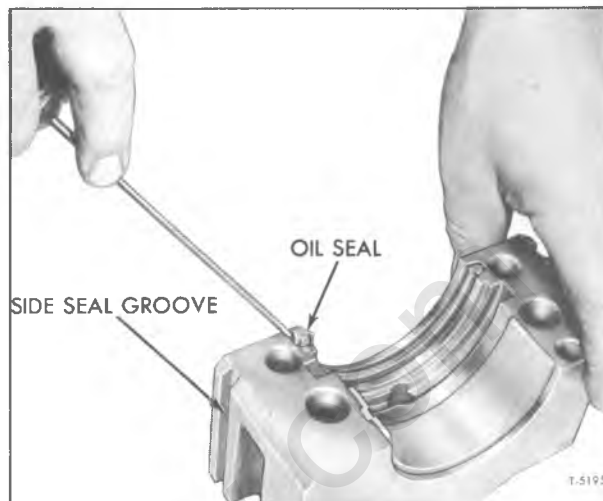

Figure 16—Removing Seal Lower Half from Bearing Cap
2. Remove lower half of seal from bearing cap using screwdriver as shown in figure 16.